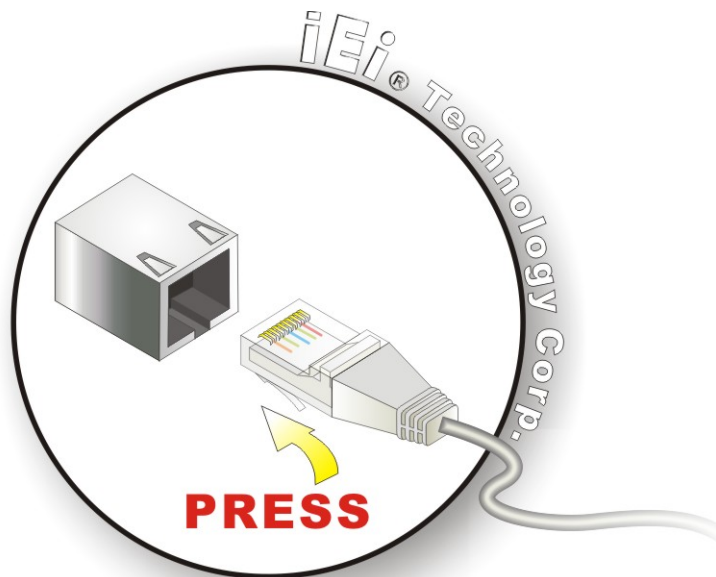

Figure 4-14: LAN Connection
Step 2: **Align the connectors.** Align the RJ-45 connector on the LAN cable with one of the RJ-45 connectors on the KINO-CV-D25501/N26001. See Figure 4-14.